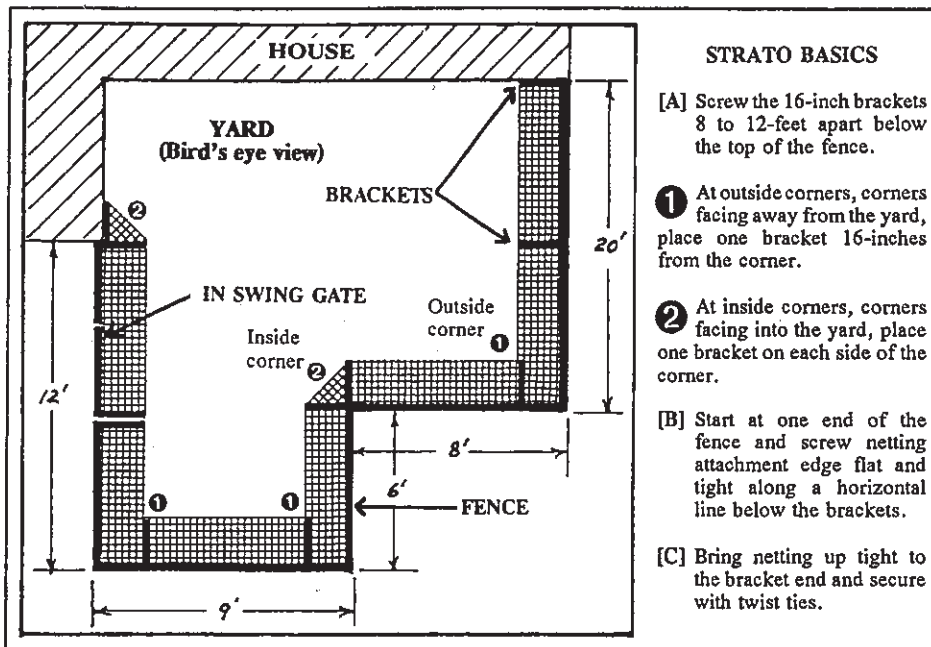
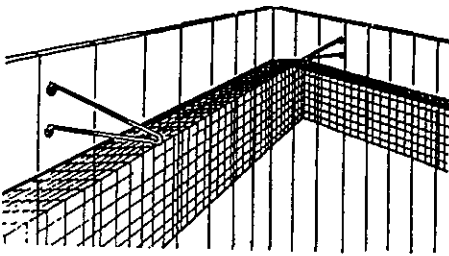
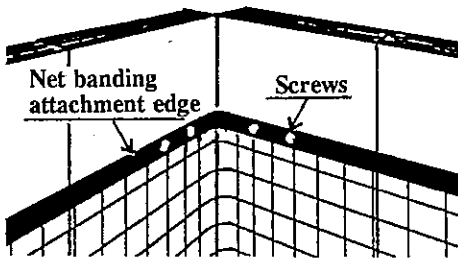

Figure 1
Figure 7
Figure 10
**Figure 7. OUTSIDE FENCE CORNER***(Corners that face away from your yard)**Install only one bracket 16-inches from a corner. Also see Figure 1. on front page.**When installing netting, do not cut the netting and banding at an outside corner. Just wrap it around the contour of the corner and attach it. See Figure 10 on next page.*
**Figure 8-A. INSIDE FENCE CORNER***(Corners that face into your yard.)**Install two brackets. Later install netting as shown. Also see Figure 1. on front page.**Figure 8-B. After all other netting has been installed, cut a section of netting and place it between the two brackets with twist ties.*
**Figure 10. SECURE NETTING AT CORNERS FIRST.** Pull netting and banding tight into the corner and secure with two screws. On the adjacent edge of the corner, install another two screws.